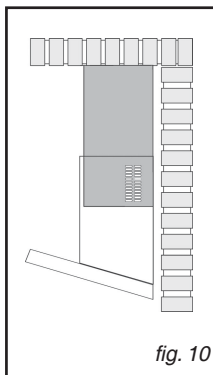

fig. 10
- For ducting hoods, turn the upper flue over so that the air exhaust grid is in the lower section (Fig. 10).